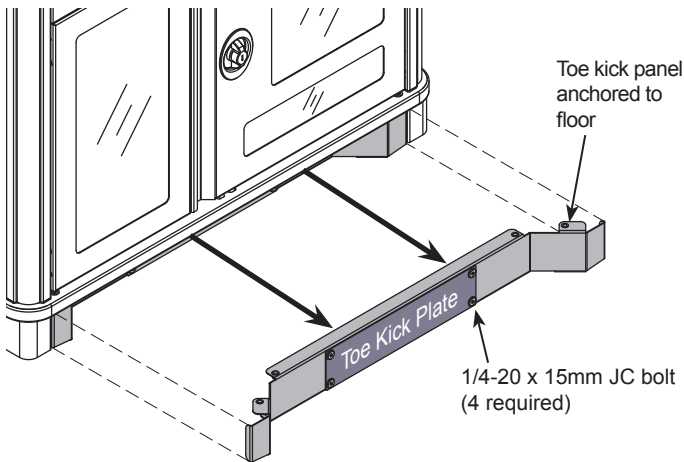
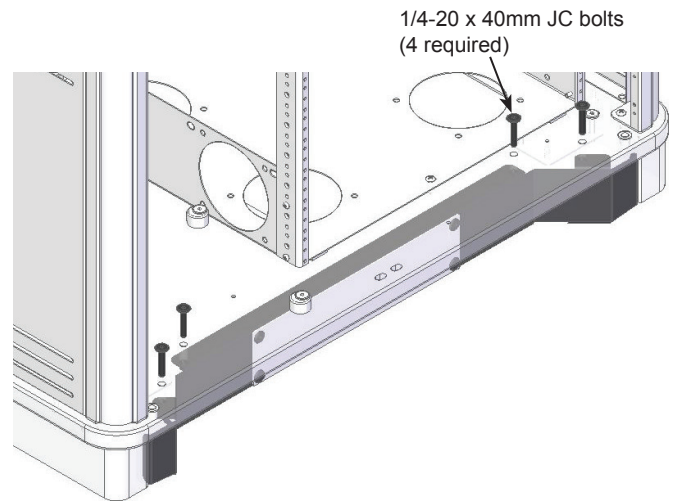

Figure 8B
Figure 8C
5. Move lectern into position over the anchored toe kick. **Figure 8B.**
6. Align the (4) base panel mounting holes (instructor-side) with the toe kick panel mounting holes.
7. Attach toe kick plate with (4) 1/4-20 x 15mm JC bolts.
9. Install (4) 1/4-20 x 40mm JC bolts through the base panel to secure, and tighten securely. **Figure 8C.**